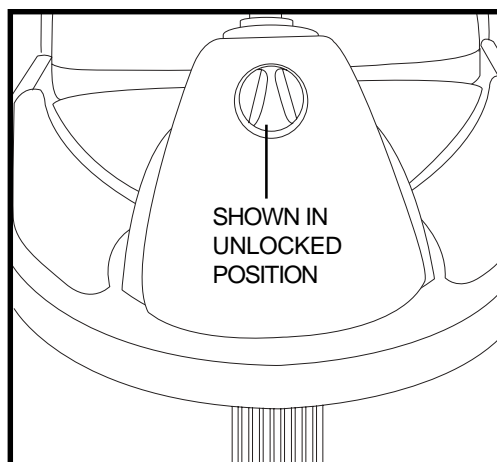

Figure 14. Tiller Lock Knob
2. Lock the tiller in place by positioning it forward, then pushing the tiller lock knob inward and turning it clockwise 90 degrees. See figure 14.